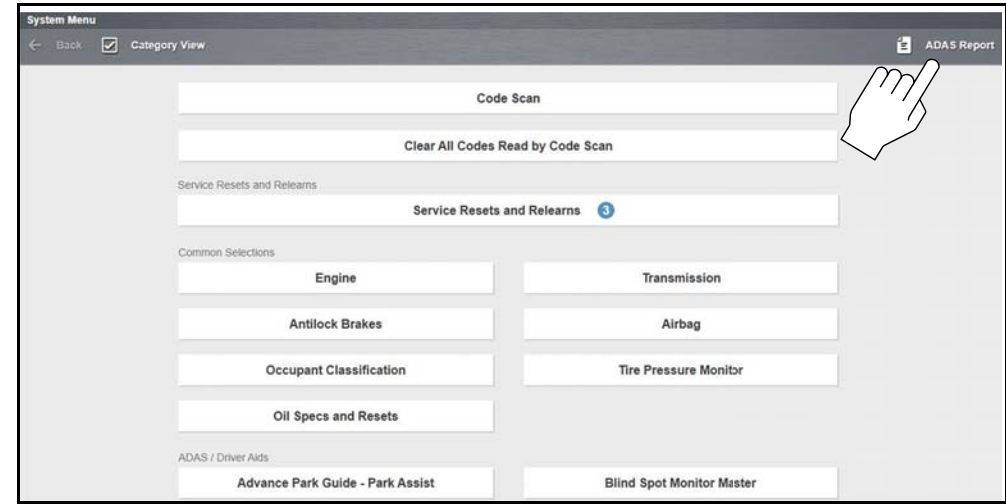
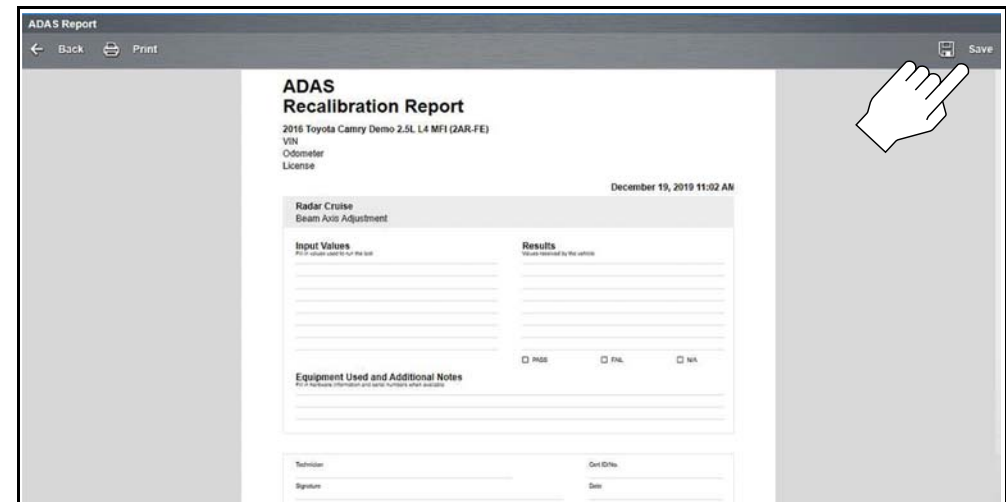

Figure 16-2
Figure 16-3
8. From the upper toolbar, select **ADAS Report** (Figure 16-2). The ADAS Report form is displayed (Figure 16-3).
9. Select **Save** (Figure 16-3) to save the report within the diagnostic tool and automatically upload it to the Snap-on Cloud.